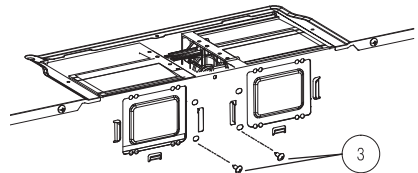

**Figure 6**
- Remove the screws (1) and (2) for opening the blower motor cover and save screws. Remove cover. See Figure 6.